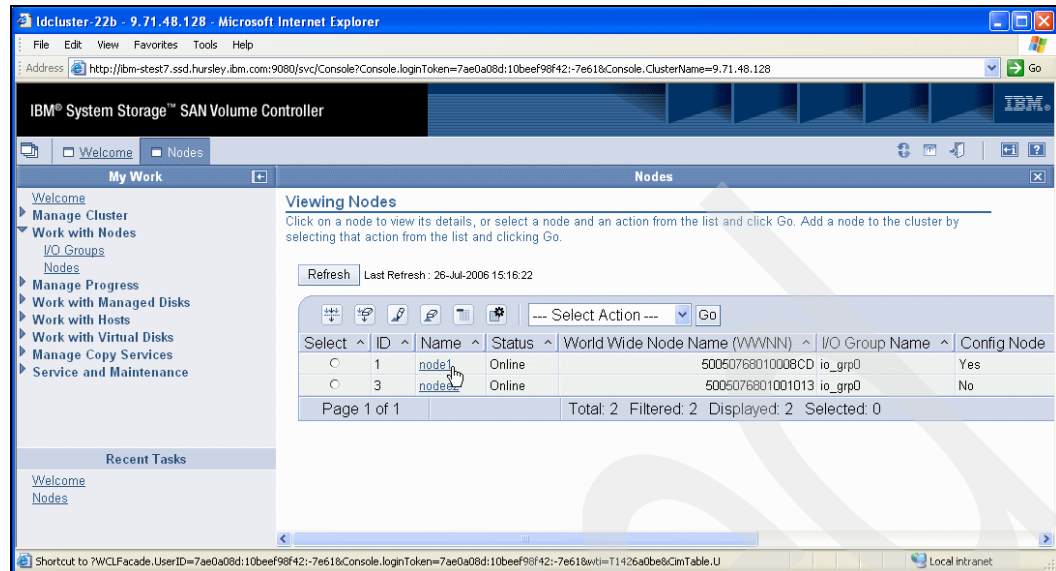
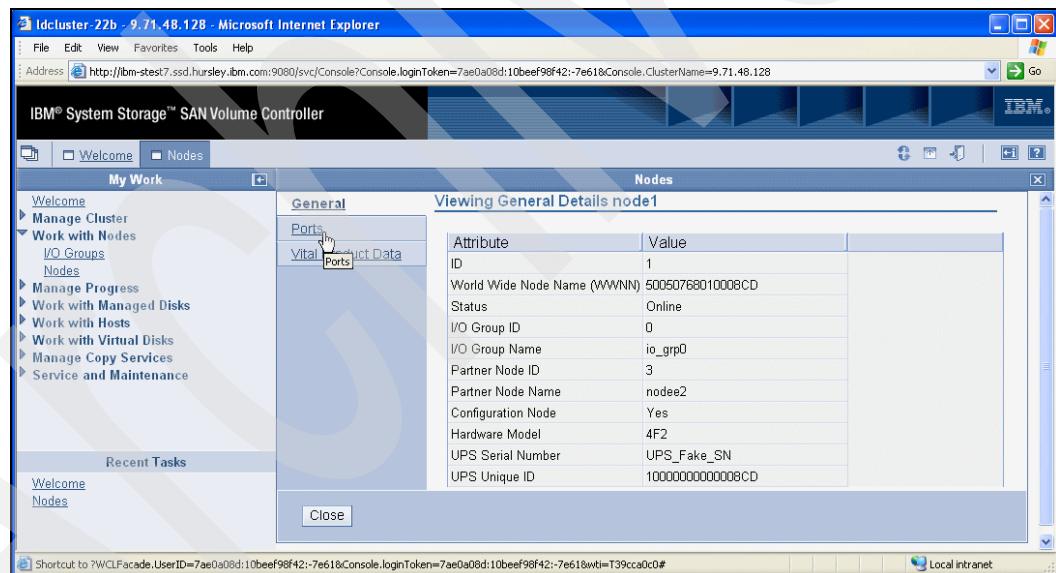
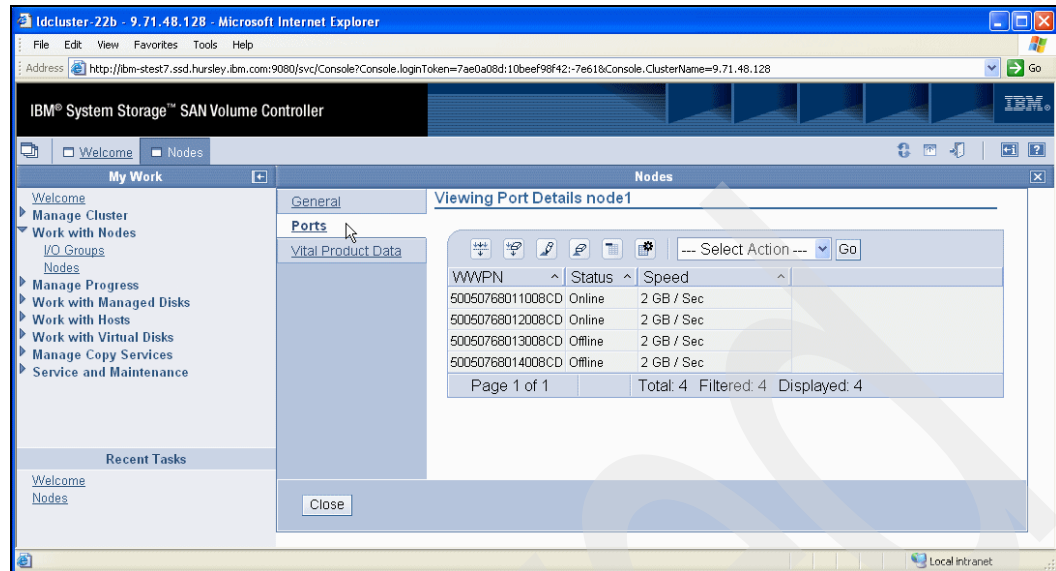

Figure 7-2 Selecting the node to determine the associated WWPNs
Figure 7-3 Selecting the Port Information for the node
Figure 7-4 List of WWPNs for the node
2. Select **Work With Nodes** → **Nodes**. Figure 7-2 shows the resulting GUI panel on our system.
3. Select each node in turn by clicking the node name link shown in Figure 7-2; the panel shown in Figure 7-3 is then presented, showing general data about that node.
4. Select the Port information link (Figure 7-3) to show the four WWPNs associated with that node. You will see a panel similar to Figure 7-4. Record the WWPNs to enable you to map the HP EVA LUNs to the SVC later on.